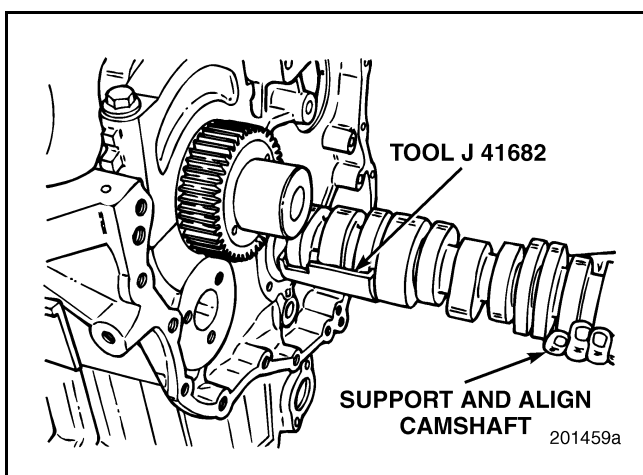

Figure 179 — Camshaft Removal
- Taking care not to damage the camshaft or bushings, pull the camshaft out from the front of the engine (Figure 179). Carefully guide the rear of shaft through the journals. If the shaft does not come out freely, ensure that all valve lifters are clear of camshaft lobes and journals.